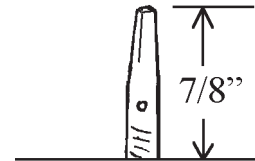

FIG. 12
- ___12. Once the finish is dry you can install the tuning pins. Use a hammer to tap them in, threaded end first, until the hole in the tuning pin is the same height as the top of the brass bridge. That should put the top of the tuning pin about 7/8" above the wood surface, as shown. (fig. 12)